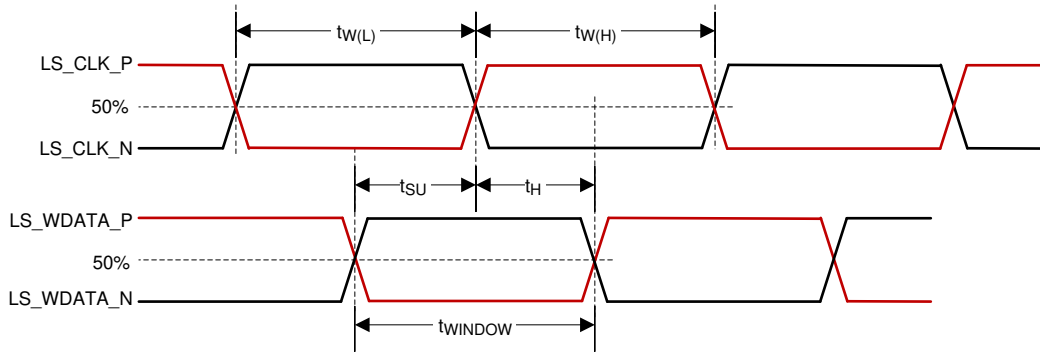

Figure 6-4. LSIF Timing Requirements
- (2) See Figure 6-4 for rise time and fall time for LSIF.
- (3) See Figure 6-4 for pulse duration high and low time for LSIF.
- (4) See Figure 6-4 for setup and hold time for LSIF.